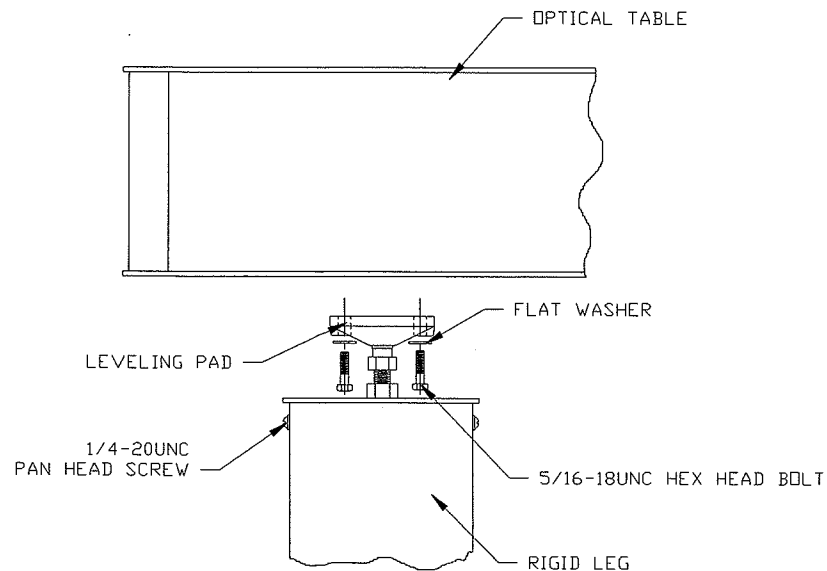

Figure 7. 500R Rigid Leg and Tabletop Connection
- Install 5/16-18UNC Bolts and Washers as shown in Figure 7. At this point leave the Bolts approximately 5 threads loose.